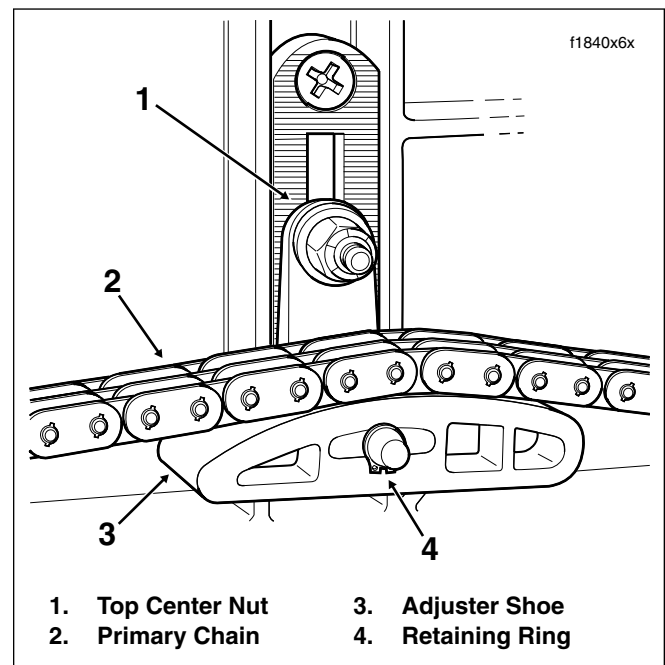

Figure 6-1. Primary Chain Tensioner Assembly
2. Loosen top center nut from captured bolt of chain tensioner assembly. See Figure 6-1.
- a. Loosen the top center nut a maximum of two turns and raise or lower the chain tensioner assembly as necessary to obtain the specified free play. See Figure 6-1.